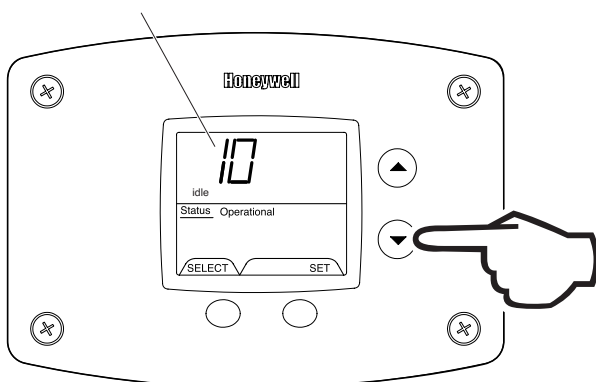

Fig. 76 No error code shown for code index 10
2. Press the "Temperature Down" button to select the error code index, starting with the most recent error code '10' (Fig. 76).